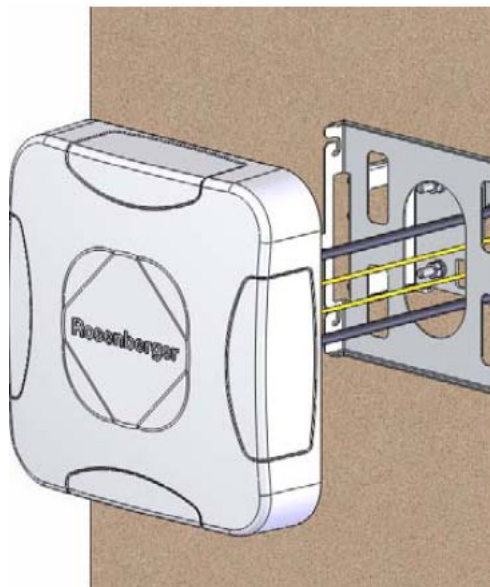

Figure 30
Step 6. Joint the connector with system, as shown in Figure 30.